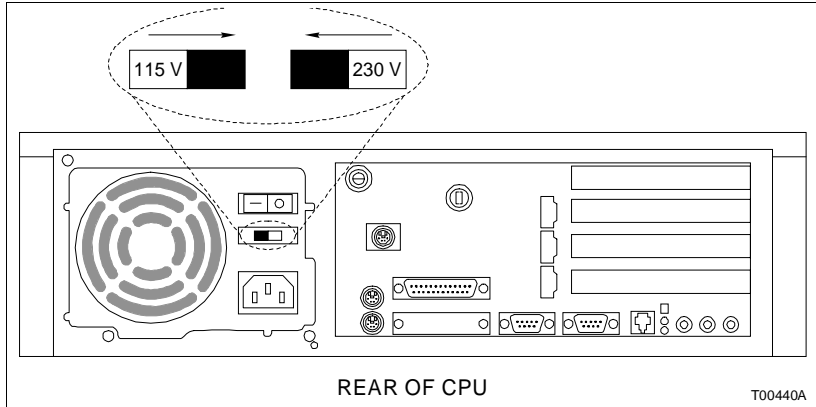
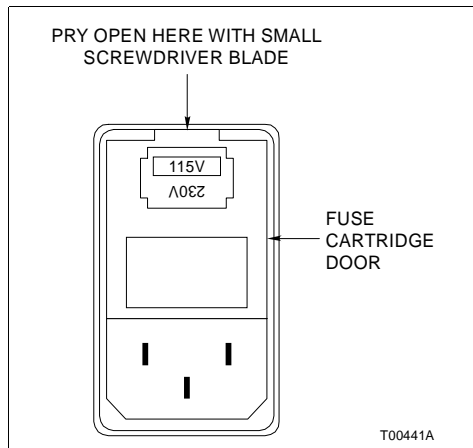

Figure PR25-6. C-I-SV43S-M, C-I-SV43S-T and C-I-SV43S-X Workstation CPU
Figure PR25-7. Lifting Mechanism Power Input Module
16. Verify that the voltage switch setting on the rear of the CPU for C-I-SV43S-M, C-I-SV43S-T and C-I-SV43S-X workstations (Fig. PR25-6) and the power input module for the lifting mechanism (Fig. PR25-7) on all workstations (if supplied) are set to the proper input voltage level.